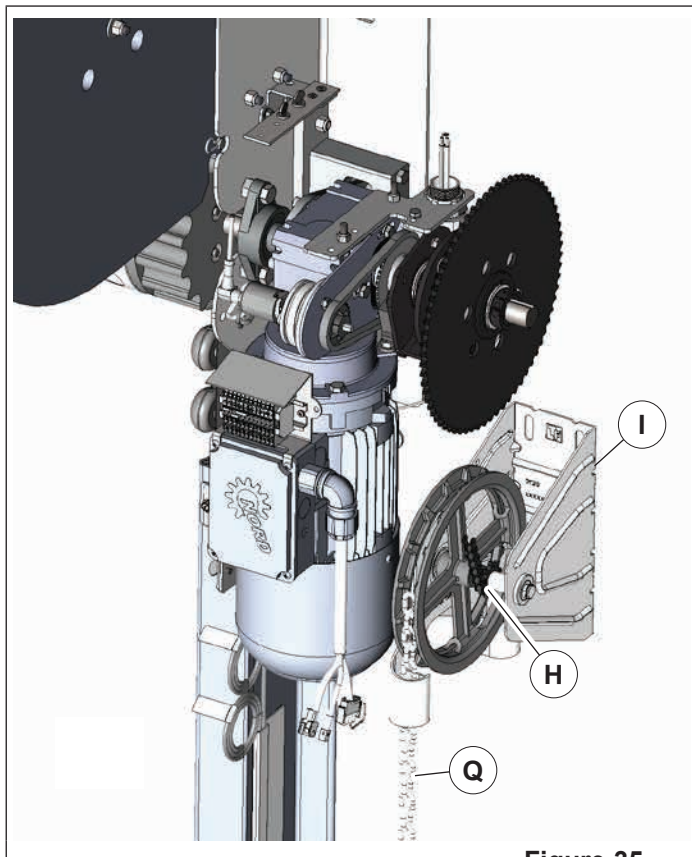

Figure 35
- Install engagement arm bracket (D) with limit switch toward gearbox.
- Install the (2) 1/4in x 1/2in [M6 x 13mm] bolts and 1/4in [M6] lock washers through the engagement arm on the top and side to hold the bracket in place (Figure 35).
11. Place the drive chain (H) around the chain hoist sprocket and then place the drive chain over the drive tube driven sprocket (Figure 35).
13. With the hand chain sprocket in toward the motor and the sprocket in line with the drive sprocket, plumb, level, mark and drill hole locations (toward bottom of the slot, to prevent chain hoist from sliding up) for fastening chain hoist assembly (I) to the wall. Use fasteners suitable to hold unit to the wall.
17. Install the hand chain (Q) (**Figure 35**) onto the chain hoist, down through hole in hand lever/chain blocker assembly and around chain tensioner pulley. The chain links can be taken apart to achieve the length needed.